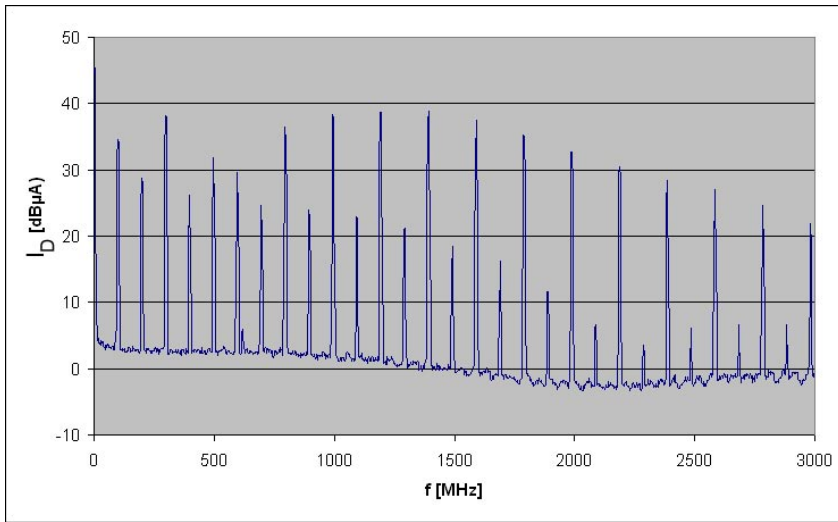

Figure 8. Common-mode current of the LVDS driver
1. Odd-order common-mode harmonics are generated in the lower frequency range under symmetrical square-wave excitation due to different signal heights on both outputs (Figure 8).
2. Even-order common-mode harmonics are generated in the upper frequency range under symmetrical square-wave excitation due to different edge shapes (Figure 8).
Figure 8 shows the converted common-mode current. As described under 1, the common-mode current is generated by the asymmetrical amplitude under 300 MHz and by the asymmetrical edge at around 1.2 GHz.